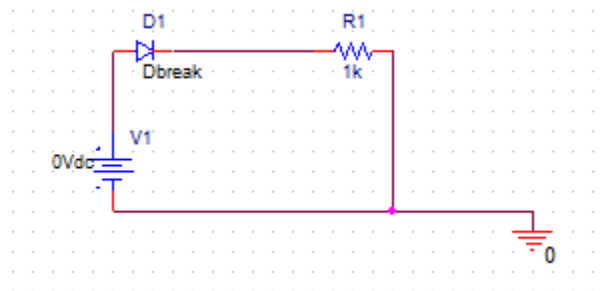

Figure 2: Basic Resistor Diode Circuit
2. Create a basic resistor (1K Ω) diode series circuit with a voltage source powering it using the components located under the PLACE menu, making sure to put a ground in the circuit otherwise the simulation will not run. Also make sure the diode is in the forward bias polarity for this part of the experiment. See figure 2.